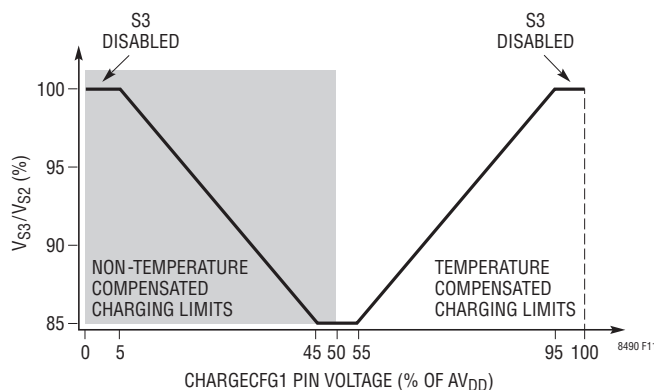
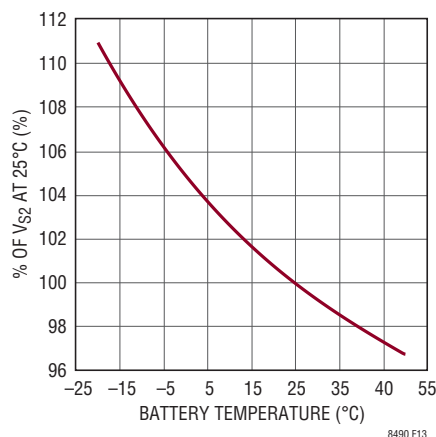

Figure 11. CHARGECFG1 Pin Configuration
Figure 13. Stage 2 Voltage Limit vs Temperature When Temperature Compensation Is Enabled
The Stage 2 voltage limit (V_{S2}) is the maximum battery charging voltage. The voltage limits for Stages 0, 1 and 3 are all related to the Stage 2 limit as shown in Table 3 and Figure 11. If temperature compensated charging is enabled, then V_{S2} will change with temperature as shown in Figure 13. As such, the limits for the other stages will also change with temperature since they are a constant proportion of V_{S2} .
The CHARGECFG1 pin is a multifunctional pin as shown in Figure 11. Set this pin using a resistor divider totaling no less than 100k Ω to the AV_{DD} pin (see the Typical Applications section for examples). The voltage on CHARGECFG1, as a percentage of AV_{DD} , makes the selections discussed below. Avoid setting the divider ratio directly at any of the inflection points on Figure 11 (e.g. 5%, 45%, 50%, 55% or 95%)
2. **BATTERY VOLTAGE TEMPERATURE COMPENSATION:** Some battery chemistries charge best when the voltage limit is adjusted with battery temperature. Lead-acid batteries, in particular, experience a significant change in the ideal charging voltage as temperature changes. If enabled with the CHARGECONFIG1 pin, the battery charging voltage and all related voltage thresholds are automatically adjusted with battery temperature. As the voltage on the TEMPSENSE pin changes, the PWM duty cycle from the FBOW pin changes such that the voltage limits of the LT8490 follow the curve shown in Figure 13.